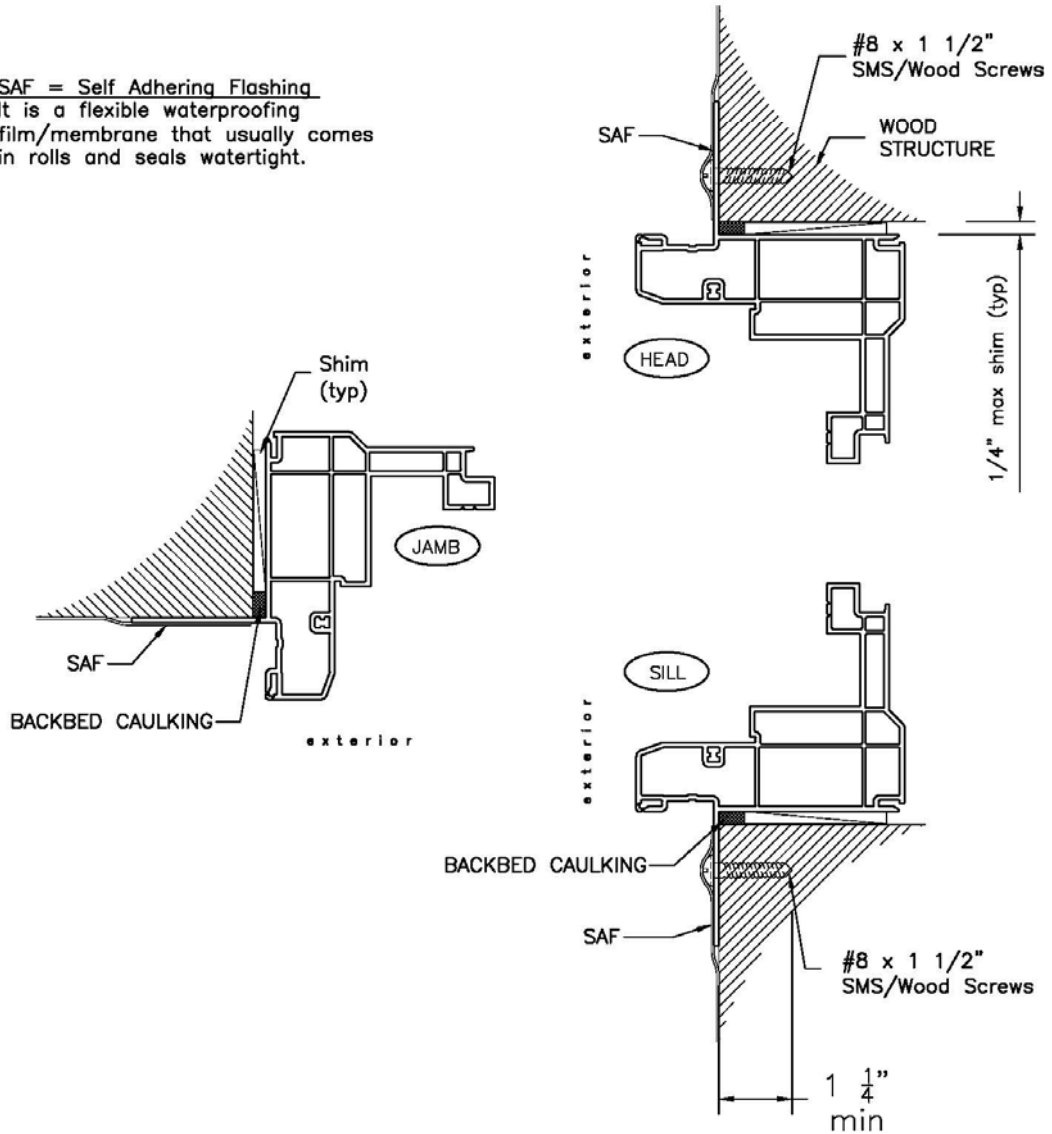

Figure 9: Installation type "D" using Fin Frame
5. Secure window using installation screws as selected from the approval documents for your specific application (see figure 9). Shim window to main structure at every installation screw location (shim space should not exceed 1/4"). You can secure the window with a few screws at first to make sure